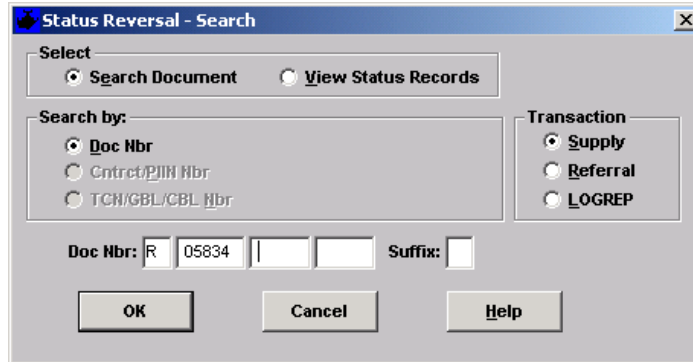

Figure 6.13
- 6.4.1 The *Status Reversal - Search* window (Figure 6.13) allows the user to generate an AE\_ status record for reversal.